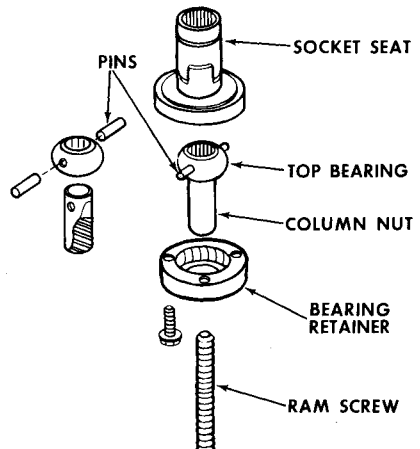

Figure 1 — Socket Seat, Bearing & Column Nut
The bearing retainer also has a spherical surface that engages the bottom side of the top bearing and holds it in the socket seat. The column nut is held in the top bearing by the two, opposed double roll pins. See Figure 1.
5. Remove three hex screws and assembly will come apart as in Figure 1.